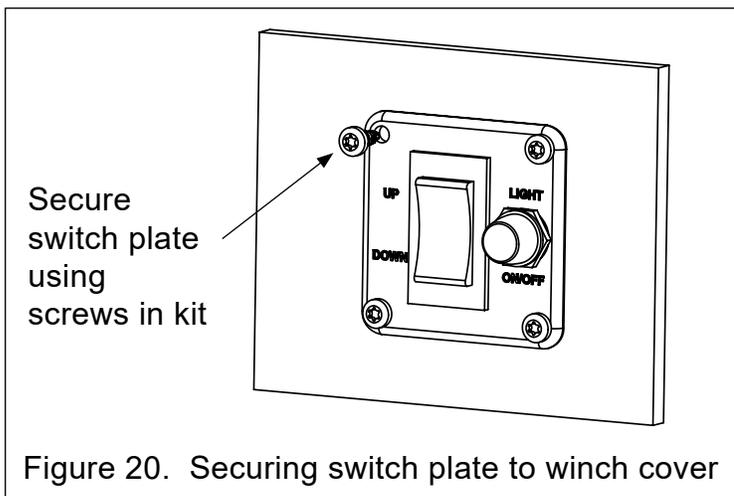

Figure 20. Securing switch plate to winch cover
4. If you are mounting the switch to the winch cover, locate the four screws that are needed to secure the switch plate in Figure 17 and assemble them as shown in Figure 20.